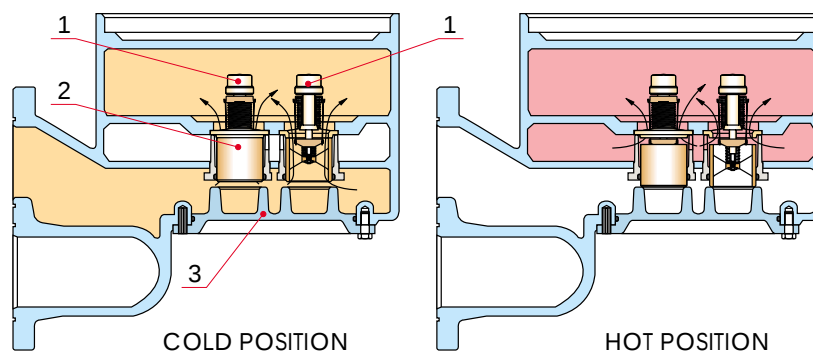

Fig 18-5
The Fig 18-5 shows the valve in a closed position (left). When the temperature exceeds the nominal value, the contents of the elements (1) expands and forces the valve unit (2) towards the end flange, thus passing part of the oil through the cooler. This movement continues until the right temperature of the mixed oil is obtained. As the cooler becomes dirtier, the temperature will rise a few degrees, which is quite normal, because the valve needs a certain temperature rise for a certain opening to increase the oil flow through the cooler.